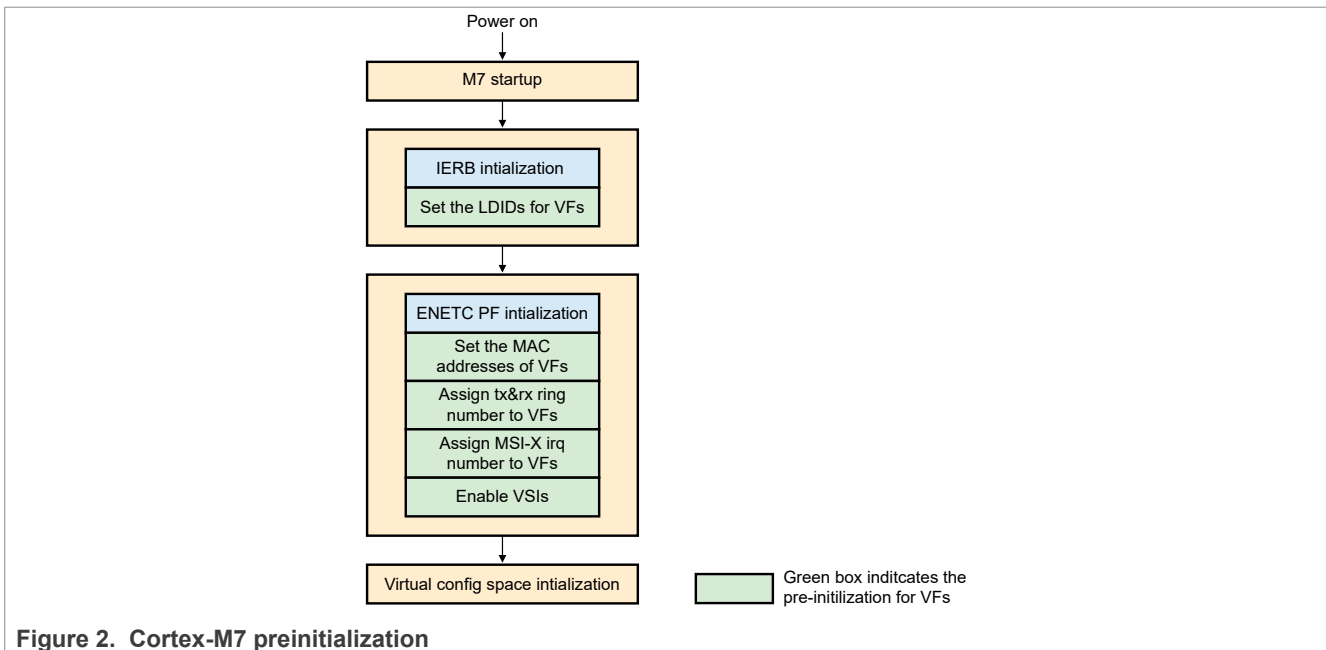

Figure 2. Cortex-M7 preinitialization
The system Manager (SM) assigns the ENETC hardware resources to the Cortex-M7 before the Linux initialization. To discover PCI devices dynamically, the Cortex-M7 must perform preinitialization for the Linux. Figure 2 shows the Cortex-M7 VF preinitialization.